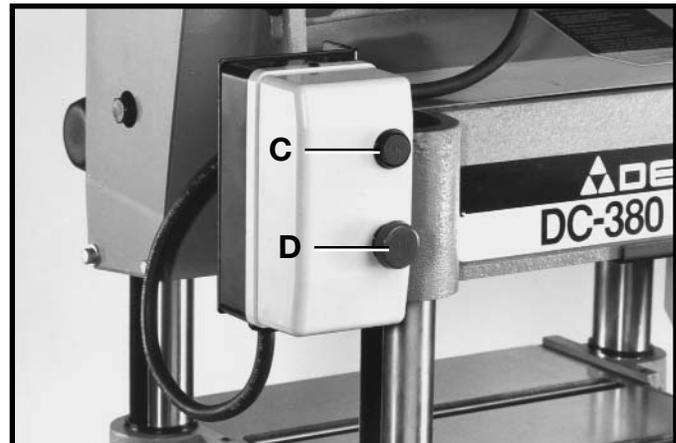

Fig. 19A
On the three phase machine the switch is located on the left front side of the planer head assembly, as shown in Fig. 19A. To turn the machine "ON" press the start button (C), and to turn the machine "OFF" press the stop button (D).